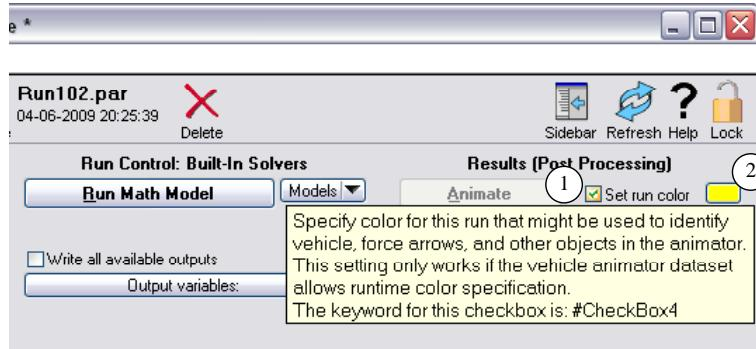

Figure 23. Option to set a run color.
11. Press the drop-down control (2) to select an existing run to overlay. Choose **Baseline** (3).
12. Next to the **Animate** button, right-click the checkbox **Set run color** ① (Figure 23). The pop-up help indicates the vehicle color can be set here; check the box to reveal a color selector ②.